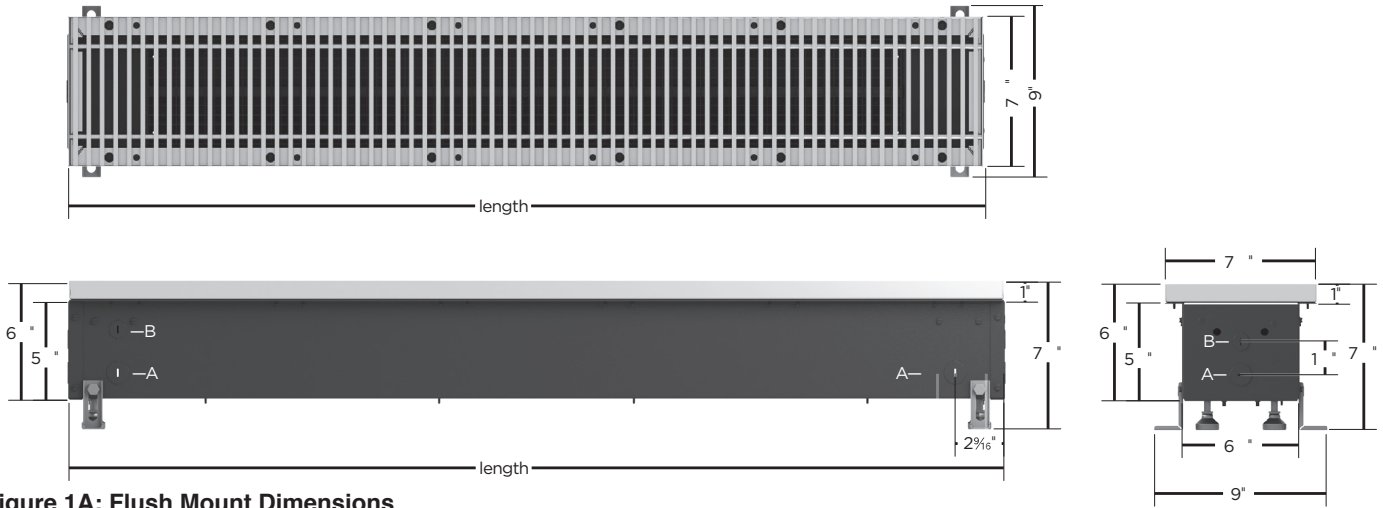

Figure 1A: Flush Mount Dimensions
**NOTE:** Reference Fig. 1A & 1B for dimensions to consider during installation.